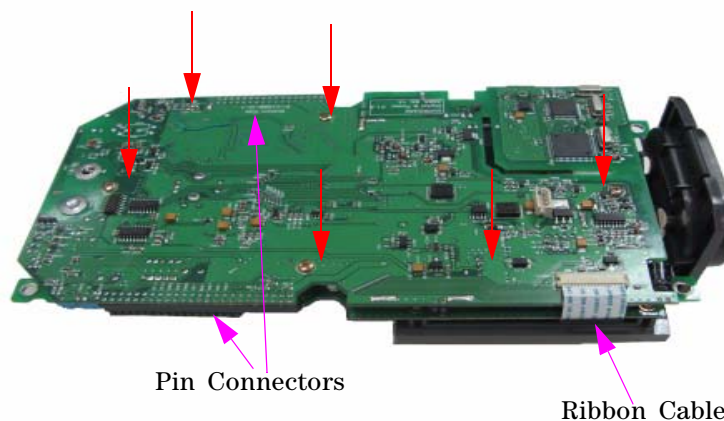

Figure 8-13 Remove the six screws and pull the ribbon cable from the PCBA board
2 The front view of the PCBA board is shown in Figure 8-10. Turn over the PCB assembly board with the LCD display facing downward and remove the screw at the location as pointed in Figure 8-13.
- 4 Unplug the pin connectors at both side of the PCBA board as pointed in Figure 8-13.